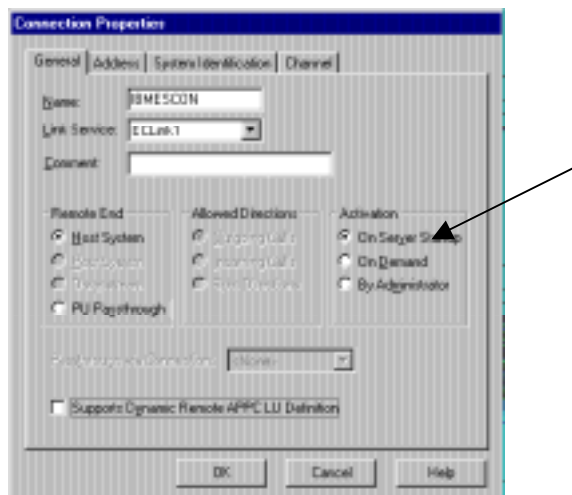

Figure 15-18. Activate at Startup
4. Verify the activation setting for the connection (Figure 15-18). ESCON connections should be set to activate on server startup. They should never be set to activate on demand.